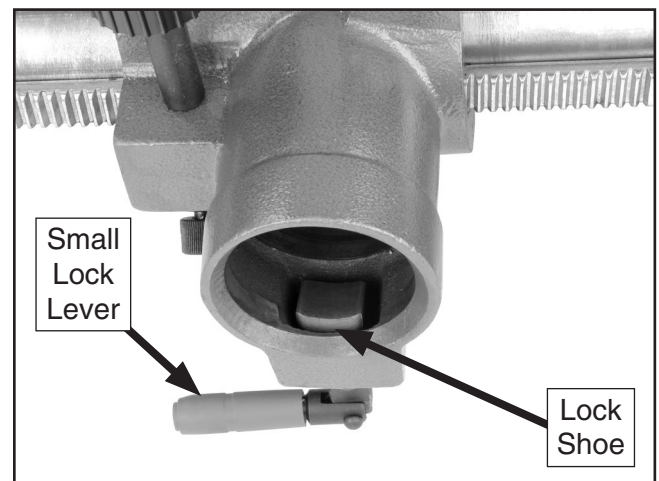

Figure 18. Lock shoe installed.
13. Insert the included lock shoe into the recessed pocket on the inside of the headstock opening as shown in **Figure 18**.